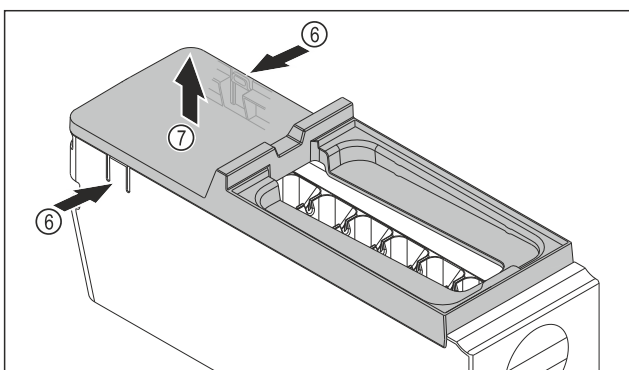

Fig. 83
- ▶ Removing the EasyTwist-Ice body cover: Push the tabs Fig. 83 (6) on both sides of the EasyTwist-Ice body with one hand.
- ▶ Use the other hand to remove the cover Fig. 83 (7) upwards.